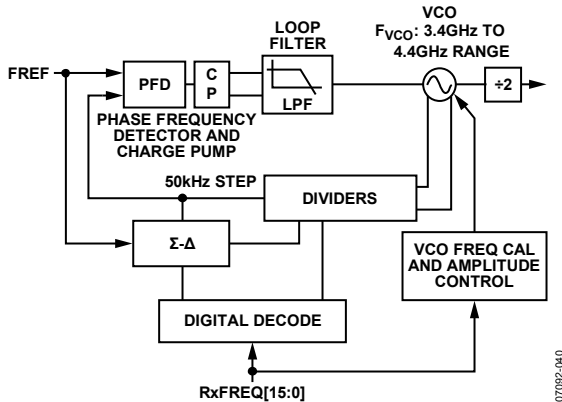

Figure 48. Frequency Synthesizer Block Diagram
The ADF4602 contains two fully integrated programmable frequency synthesizers for generation of transmit and receive local oscillator (LO) signals. The design uses a fractional-N architecture for low noise and fast lock-time. The fractional-N functionality is implemented with a third order Σ - Δ modulator. Figure 48 shows a block diagram of the synthesizer architecture.